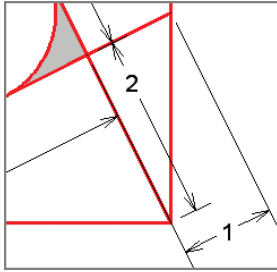

FIGURE 11.25
10. Type **L** (for Left), and press Enter. The dimension text is now left-justified in relation to the dimension line, so the 2 is more easily read within the whitespace left within the red lines (see Figure 11.25).